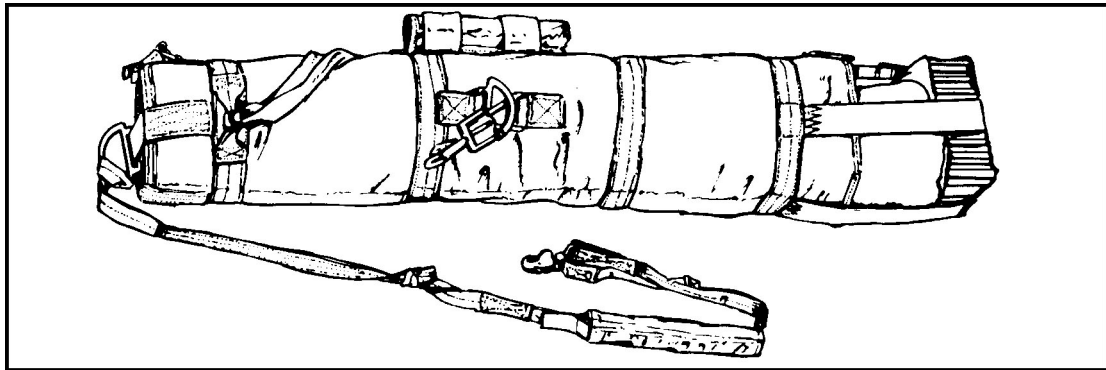

Figure 12-54. Attaching strap secured.
- (1) Attach the lowering line to the lowering line attaching strap by routing the loop of the lowering line through the small loop end of the lowering line attaching strap.
- (2) Route the lowering line through its own loop and pull tight (Figure 12-54).
- (1) If not already installed, attach the lowering line attaching strap to the nonadjustable cross strap D-ring by routing the large loop around the D-ring.
- (2) Route the lowering line through the attaching strap loop and pull tight (Figure 12-54).